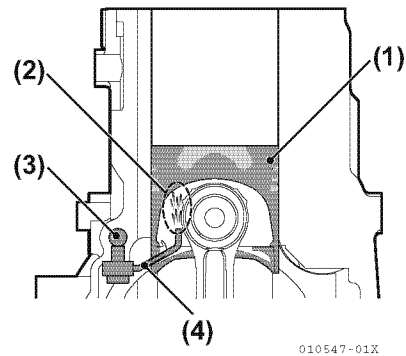

Figure 8-15
- Check the nozzle end hole (diameter 1.8 mm [0.071 in.]) for dust or other foreign matter (Figure 8-15).